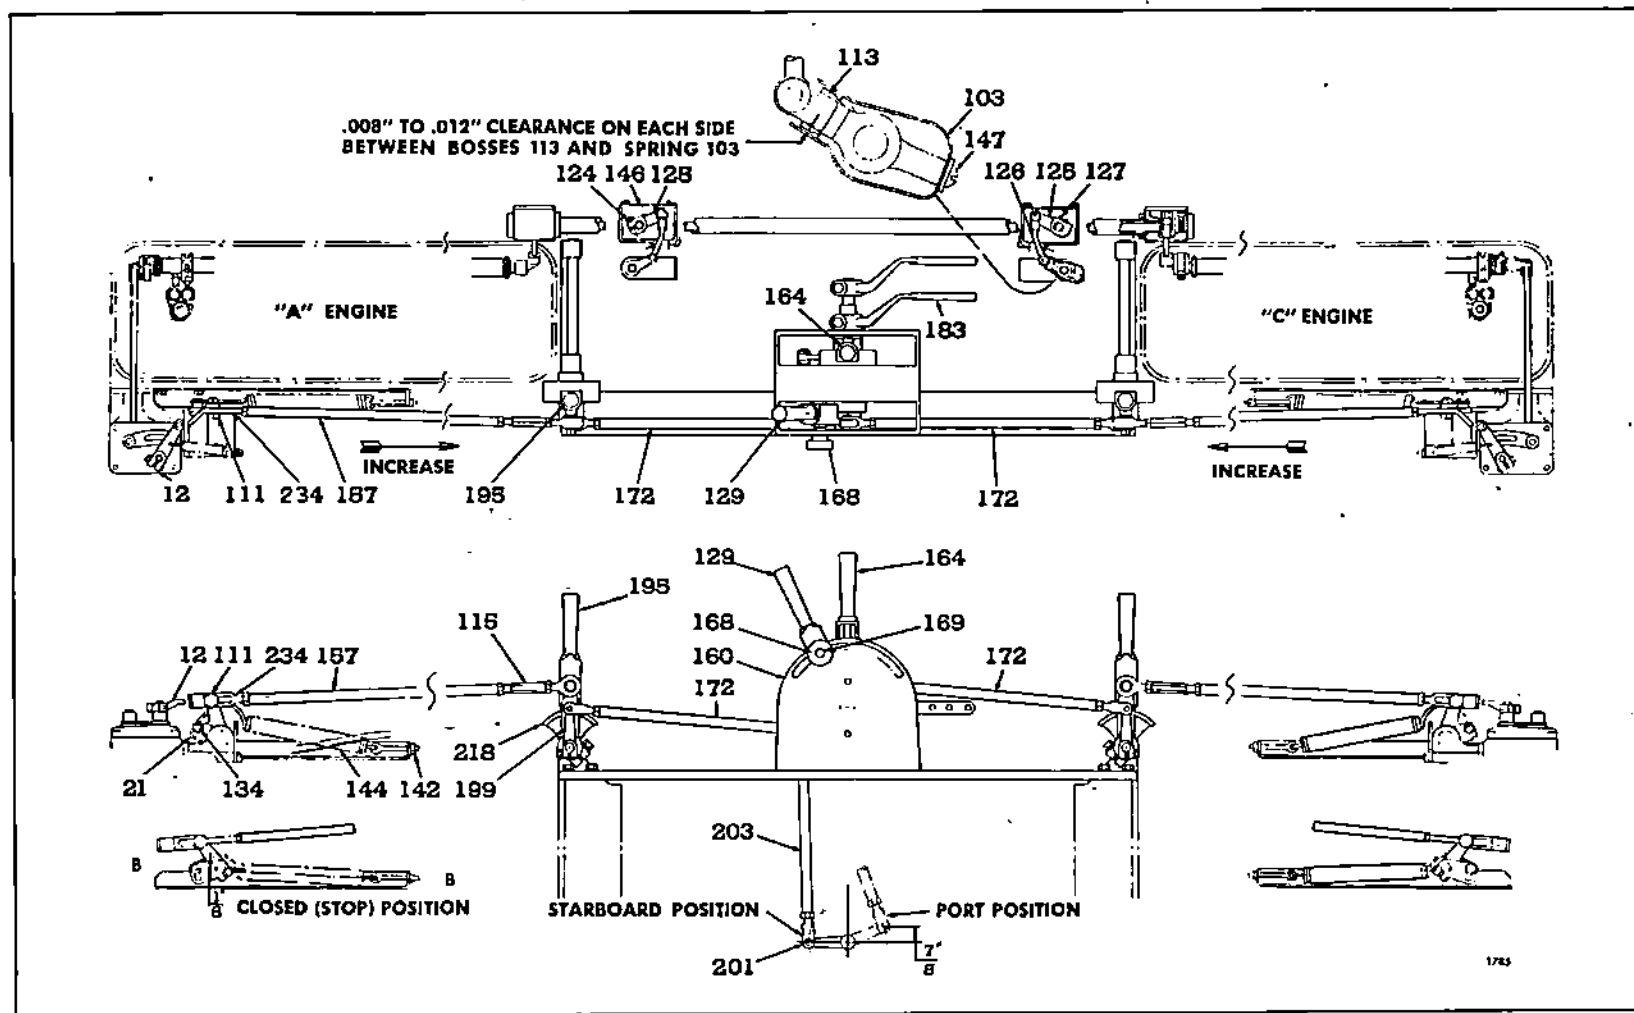

Fig. 35 - Diagram of Throttle Control Linkage for Tandem Twin Marine Unit with Variable Speed Governors
Disconnect the control rods (157) from the speed control levers (21) Fig. 35 and perform a tune-up on each engine before adjusting the throttle control linkage. Then, with engines stopped proceed as follows:
3. Disconnect the master throttle control rods (172) from the cross shaft operating levers (199) of the "A" and "C" engines, Fig. 35.
4. Lock the throttle levers (195) to their quadrants (218) in a vertical position.
5. Loosen the clamp bolts on the throttle lever quadrants (218), if necessary, and set the cross shaft operating levers (199) vertically with the holes for the clevis pin on an imaginary line extending through the centers of the cross shafts and rod end bearings, and between these centers. Retighten the clamp bolts on the quadrants.
6. Hold the throttle control levers (195) in a vertical position and adjust the master throttle control rods (172) with the clevises, so the
- a. Disconnect the equalizer link at the master equalizer lever (125) on the "A" engine.
- b. Warm up the engines, then run each engine at maximum speed and compare the speeds with the original maximum speed to check the proper length of the throttle control rod (157).
- c. If the engine speeds are satisfactory, connect the equalizer link and install the cotter pin; if the speeds are unsatisfactory, re-adjust the control rods (157) as necessary.
10. With the master remote control valve lever (164) set in a vertical position, check the position of the remote reverse gear control valve lever (183). On a port propulsion unit, the center of the clevis pin hole in the valve lever will lie on a horizontal center line drawn through the center of the valve lever shaft, as shown in Fig. 35, and point forward. On a starboard propulsion unit, the clevis pin hole in the selector valve lever will point aft and lie 7/8" above the horizontal center line drawn through the center line of the valve lever shaft.
- a. With the engines stopped, the master throttle control lever (129) in the FULL OPEN position, and the equalizer links connected at the